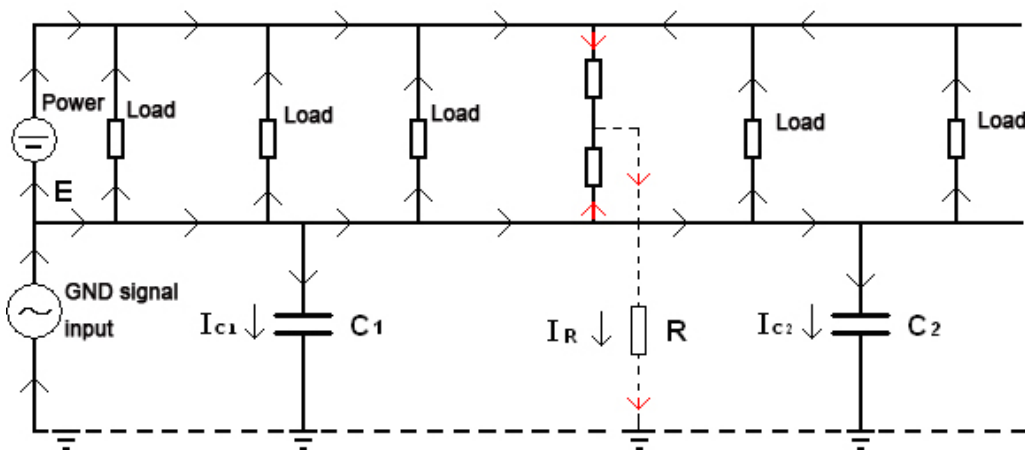

Fig 2.9
Distributed capacitance is very common phenomenon in DC systems. Generally there is big distributed capacitance when circuit lines are long and wiring structure is complicated in electric circuit. Even if the DC circuit is isolated to the ground, there could be return circuit when signal generator injects current signal due to existence of distributed capacitance. Fig 2.9 is one example. C1 and C2 are distributed capacitance before and after ground fault (R).